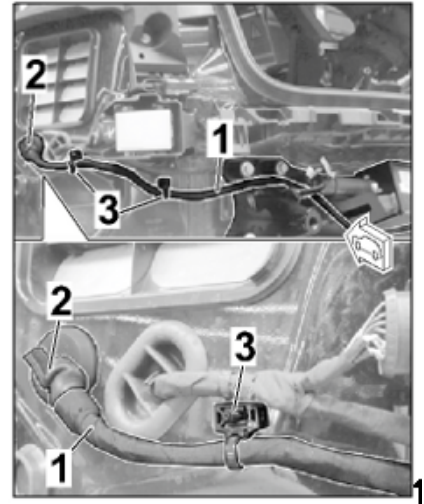

Figure 6
1.9.2 Mark the cut-out for the ball hitch (removable – USA) at the impression on the inside of the rear apron (⇒ *Figure 6 -top-*).
1.9.3 Carefully make the cut-out at the marking (⇒ *Figure 6 -bottom-*).